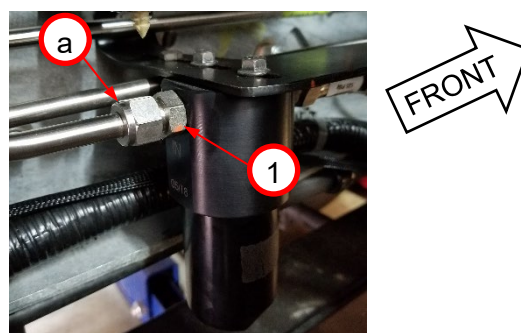

Figure 1:
5. Loosen compression fitting nut (a) at low pressure (LP) filter assembly IN port fitting (1). *Figure 1*